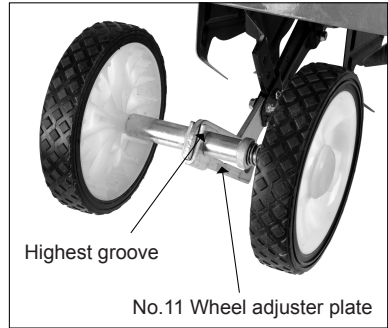

Fig.5
a) When working should put the wheels in the highest groove. **Fig 5**